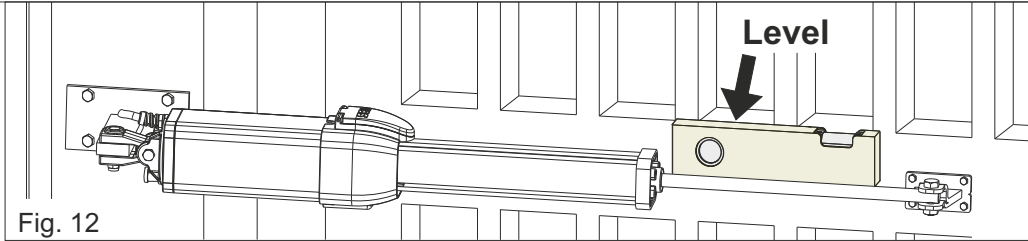

Fig. 12
- 2 - For a proper operation, it is important to place as the operator as the front and rear brackets in a perfectly horizontal position with the help of a level, as shown in Fig. 12
**The rear bracket must be positioned so that the operator is perfectly horizontal (Fig. 12)**